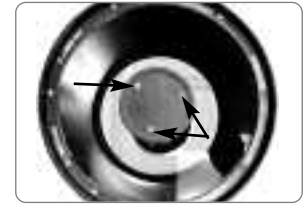

Fig. 33b: Collimation screws.
- a. The only adjustments possible, or necessary, on the SC-8 models are from the three screws (**Fig. 33b**) located at the edge of the outer surface of the secondary mirror housing.